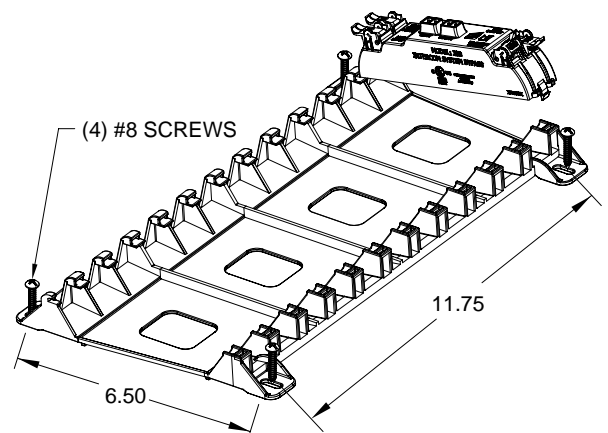

Figure 1
2. Mount the ISB PLATE panel with (4) #8 Sheet Metal Screws (Hardware Not Supplied). Refer to Figure 1 for ISB PLATE mounting dimensions. If the ISB PLATE panel is already installed, identify the position in which the TII ISB module is to be installed.
3. Holding the module on an angle as shown in Figure 1, engage the left side fingers under the catch on the ISB PLATE panel. Slowly lower the module and align the latch with the panel and engage module to the panel. Confirm that the module is securely engaged to the panel.